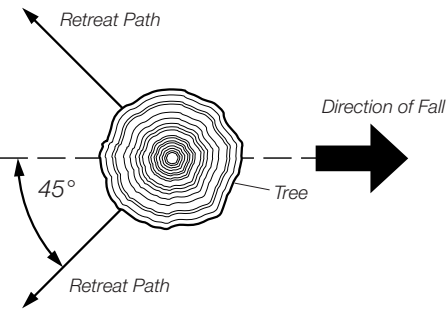

Figure 7 - Retreat Path From Tree
3. Plan and clear a retreat path before felling. Make retreat path opposite to planned direction of fall of tree and at 45° angle (see Figure 7).